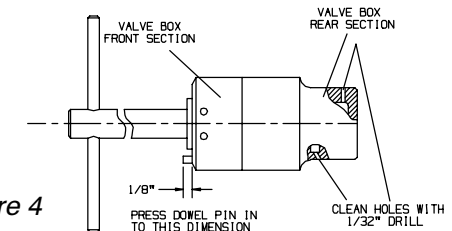

Figure 4
- f. Slide the rear section of the Valve Chest over the Valve and assemble it on the front section as shown in Figure 4. Lap the Valve until it fits freely in the assembled Valve Chest.